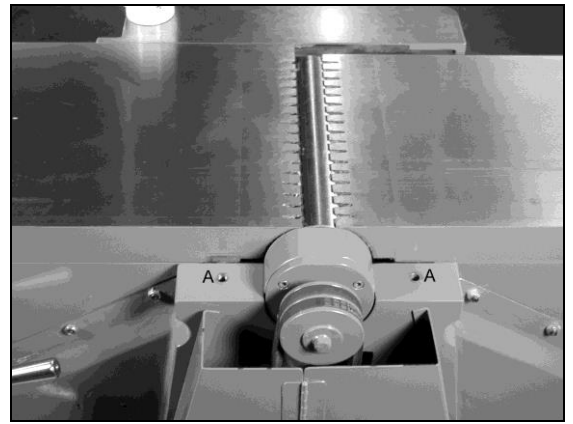
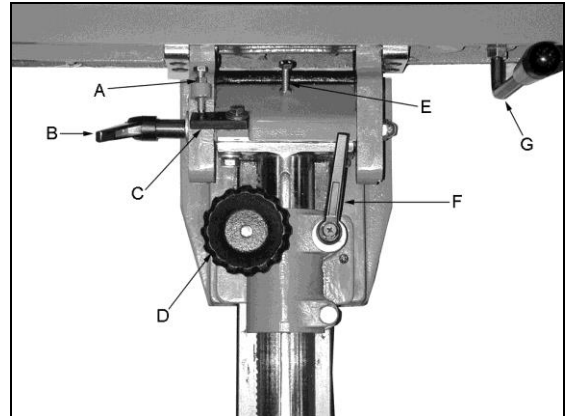

Figure 4
Figure 5
The 6" dust collection port (A, Figure 4) is located below the outfeed table. Typically flex hose is used to run from this point to a central trunk line.
1. Mount the fence (Figure 5) to the machine base (Figure 4) lining up the holes (A) with the matching holes of the fence bracket, using the allen bolts provided.
The various adjustments, locks and handles are shown in Figure 5.
2. Loosen the angle lock handle (B, figure 5).
3. Ensure the 90 degree flip stop (C, Figure 5) is in the 90 degree position.
4. Loosen the jam nut on the 90 degree adjusting bolt (A, figure 5) and adjust the bolt against the flip stop until the fence becomes true with the square.
To tilt the fence, see Figure 5. Loosen angle lock handle 'B', flip up the stop 'C', and tilt the fence with the fence angle adjusting handle 'G' to the desired angle. Use a protractor or adjustable triangle to set the angle. A 45 degree stop, 'E' is provided for quick set-up at this angle.